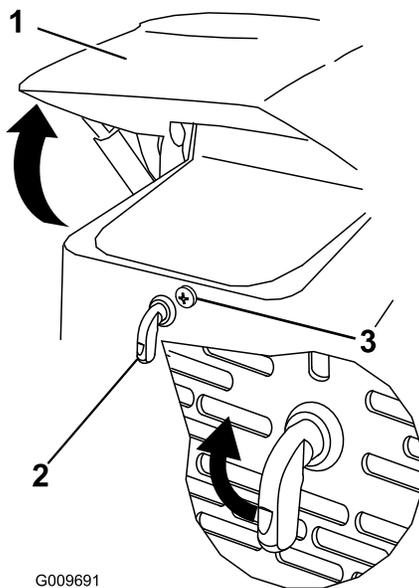

Figure 25
1. Loosen the hood-locking screw (Figure 25)
2. Turn the hood latch clockwise (Figure 25).
3. Swing the hood up (Figure 25).
3. Tighten the hood-locking screw to secure the latch (Figure 25).